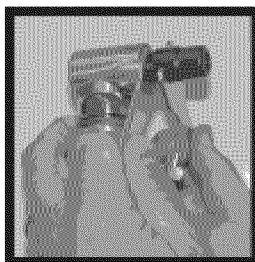

Figure 2
- Loosen the collet nut with the wrenches supplied (Figure 2)